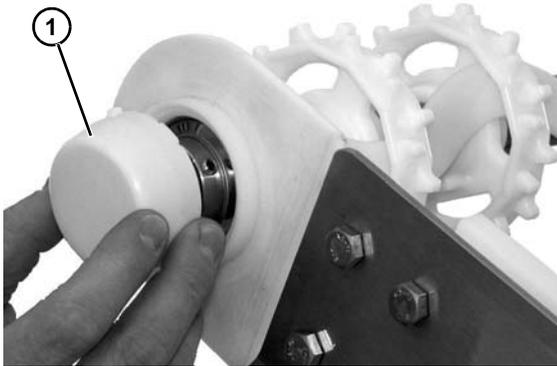

Figure 53
3. Remove bearing cover (Figure 53, item 1).